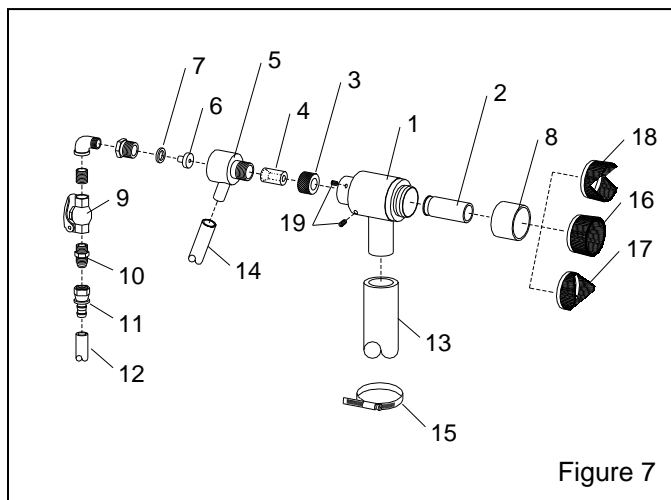

Figure 7
8.2 Blast Head and Control Assembly, Figure 7